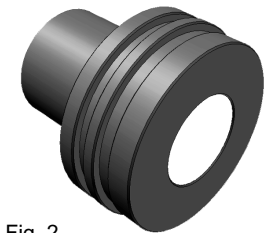

Fig. 2
3. Place the smoke element on end, greased end up, on a flat surface. Push the bulkhead over the smoke element and press down until the end is flush with the bulkhead (Fig. 2). This should be a tight press fit. If not, the smoke grain should be shimmed with tape to make a tight fit.